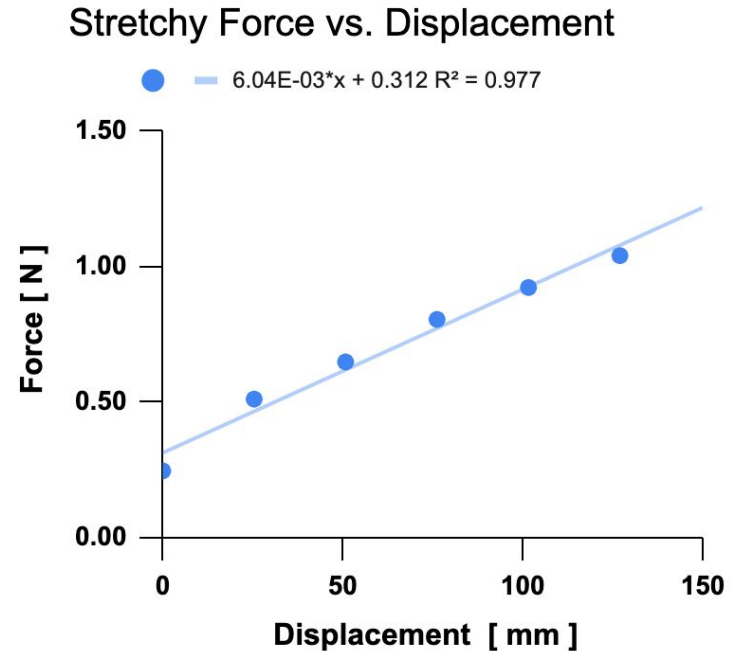
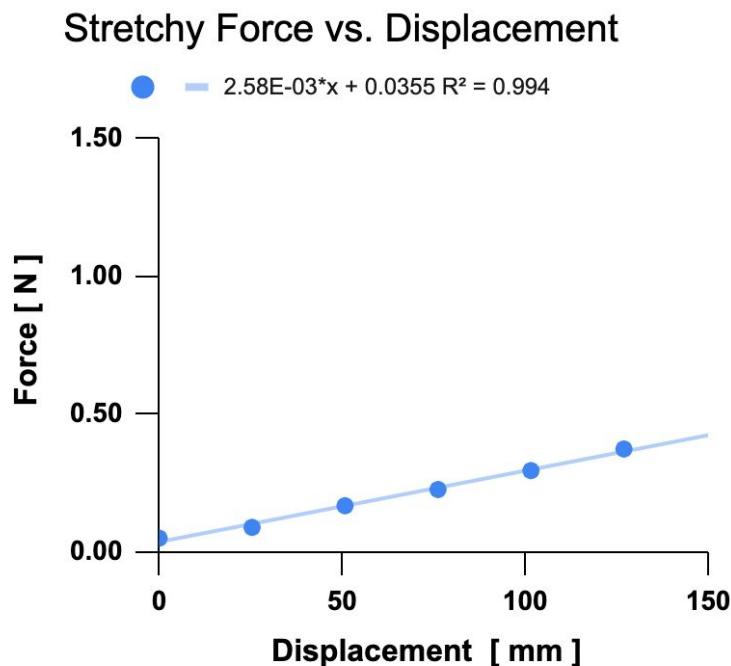
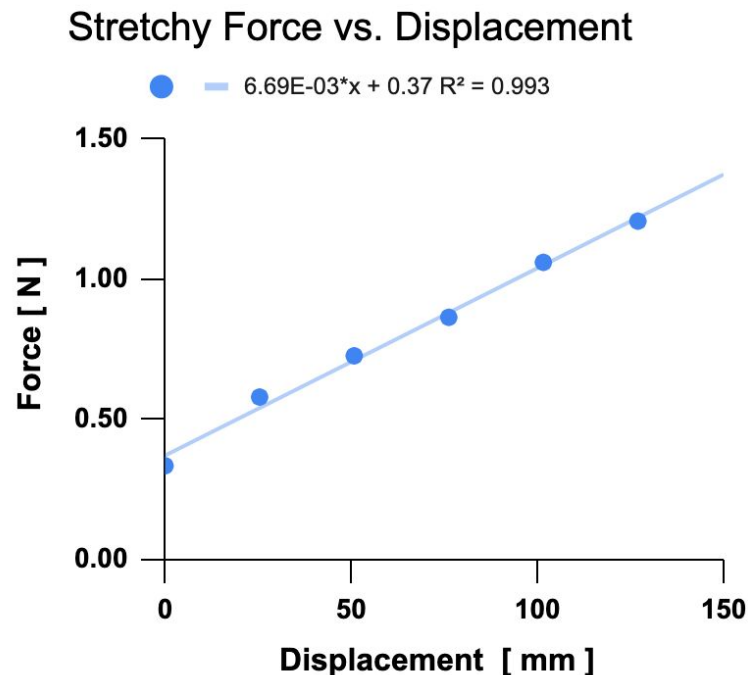

Figure 3. Stiffness test of “Stretchy” loaded between 2 arms + 2 legs.
Figure 4. Stiffness test of “Stretchy” loaded by 1 arm + 1 leg.
Figure 5. Stiffness test of “Stretchy” loaded by head stretch
Testing Stretchy by (Fig 3) 2 arms + 2 legs, vs (Fig 4) 1 arm + 1 leg, vs (Fig 5) (your choice), may reveal different overall and local stiffness behavior.
(1) Fig 4: stiffness for 1 arm + 1 leg = $(y_2 - y_1) / (x_2 - x_1) = 0.00270 \text{ N/mm}$
(2) Fig 5: stiffness for head stretch = $(y_2 - y_1) / (x_2 - x_1) = 0.00631 \text{ N/mm}$
B. How do these stiffness values compare to that from Fig 3 ?
Figure 3 (2 arms / 2 legs) stiffness is 0.005 N/mm. The stiffness for one arm / one leg was significantly lower and the stiffness for the head stretch was significantly higher compared to the stiffness of the two arms / two legs.